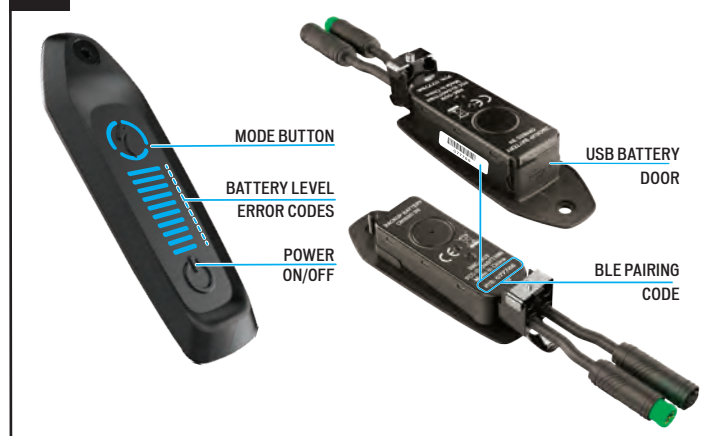
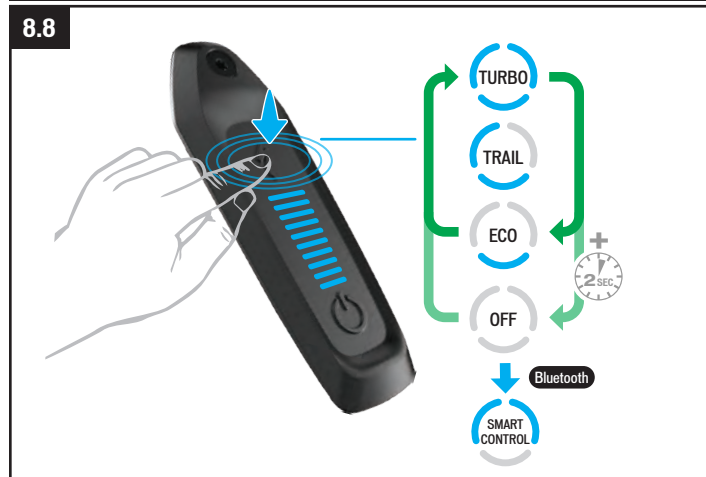

Fig. 8.1
Fig. 8.8
- The drive setting modes are displayed around the S-Button (mode) (Fig. 8.1). Pressing the S-Button cycles through the modes (Fig. 8.8).